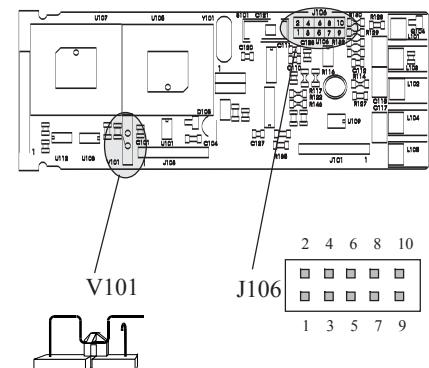

Fig. 13
- 2) Set the dip switch V101to the open condition (see fig. 13).